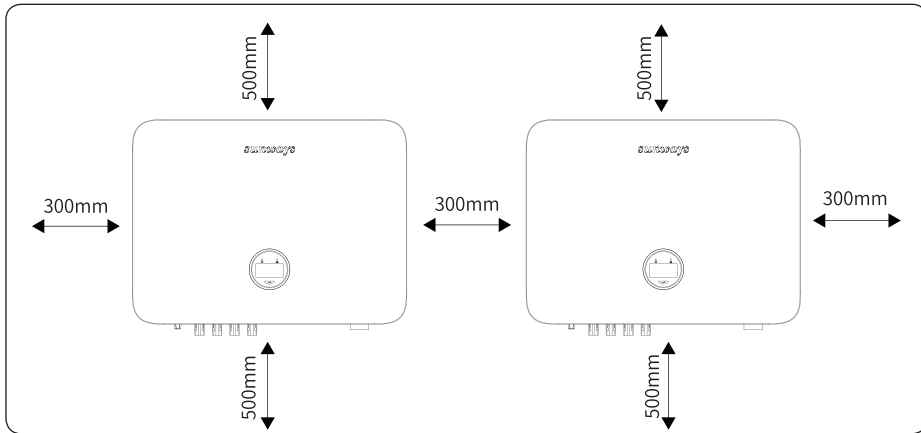

Figure 4-2 Recommended installation spacing
4.1.2 The requirements for inverter installation spacing are shown in Figure 4-2: